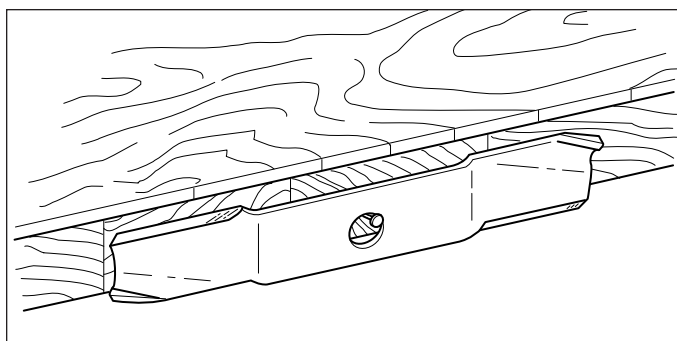

Figure 20 Balancing The Blade
5. Balance the blade as shown in Figure 20. Center the blade's hole on a nail lubricated with a drop of oil. A balanced blade will remain level.